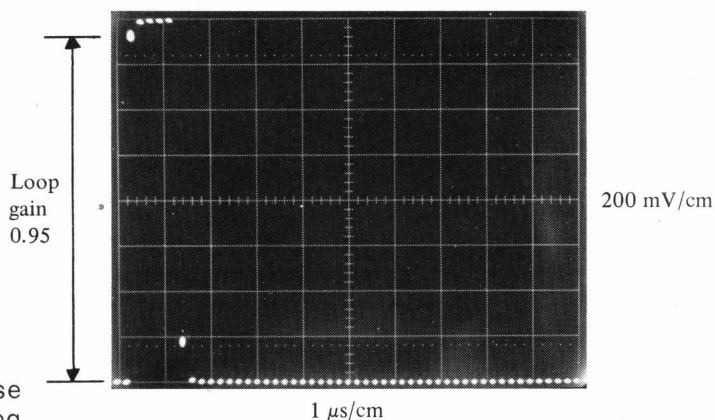

Fig. XI-4 Adjusting the loop gain to 0.95
- Adjust RV1003, LOOP GAIN, so that the loop gain is 0.95 (see Fig. XI-4).
- Adjust RV1301, AVALANCHE VOLTS, so that the loop gain is 0.95 (see Fig. XI-4).